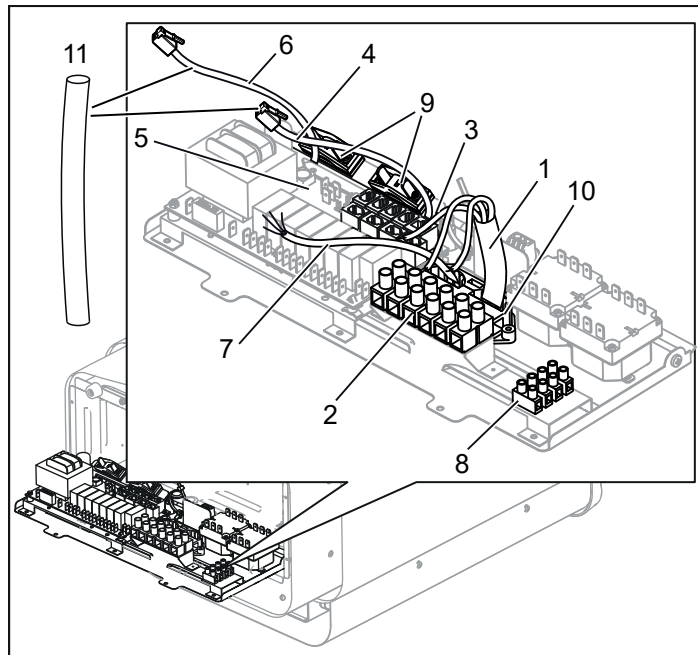
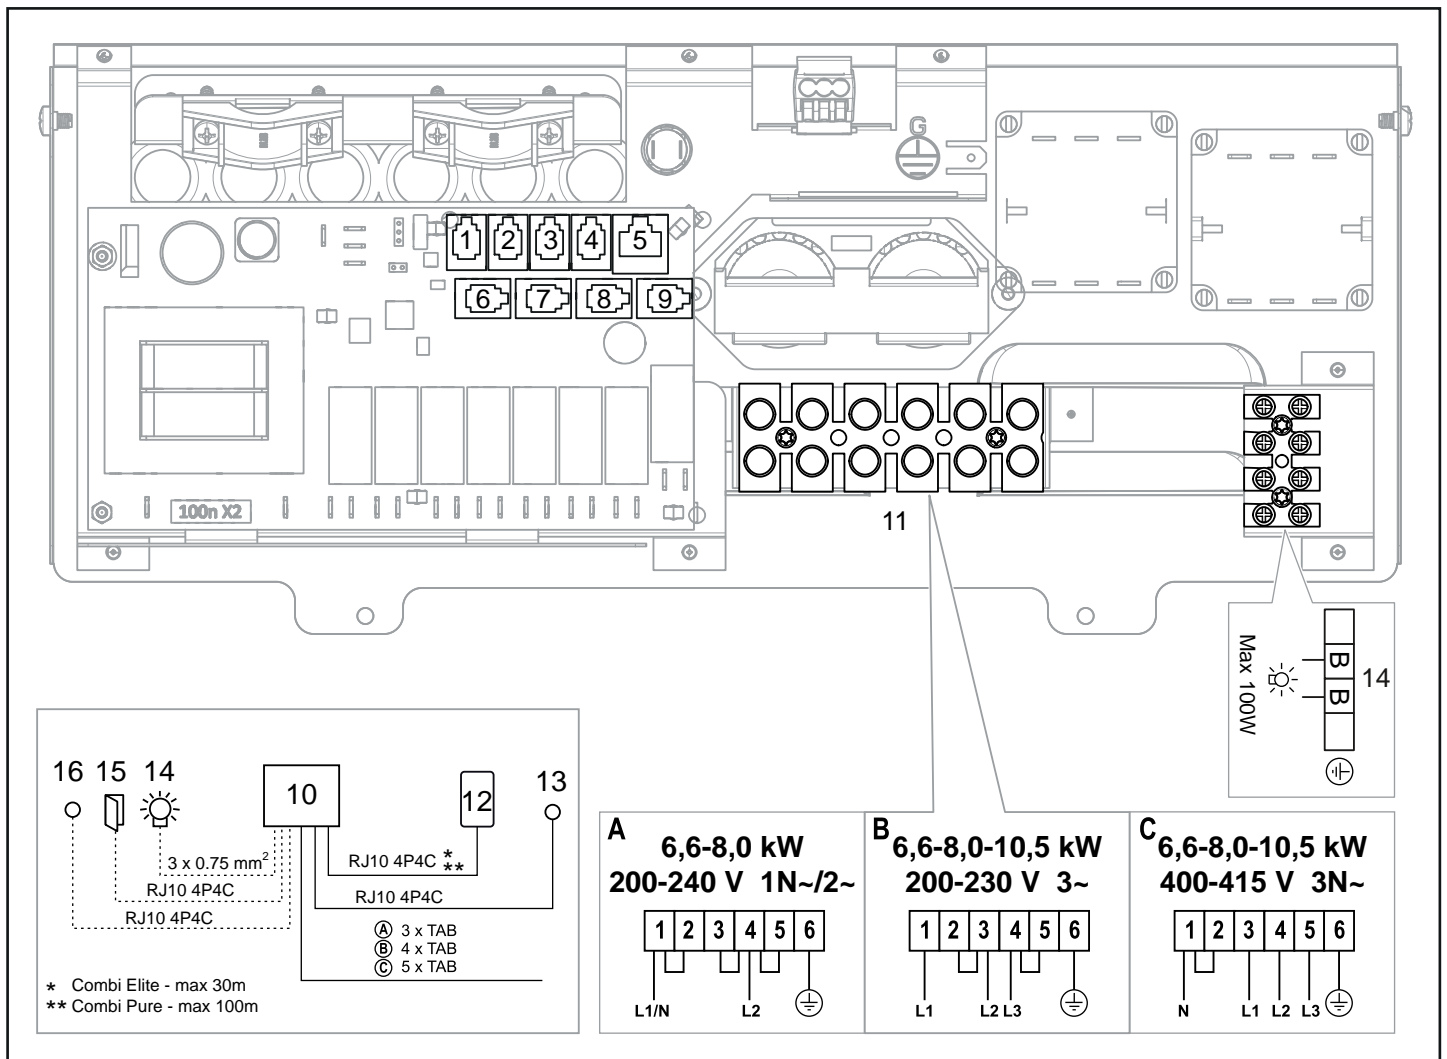

Figure 10: Circuit board
Figure 17: Wiring diagram
4. Connect the electrical cable (1) to the terminal (2) (see Figure 10) according to the wiring diagram (see the Connection/wiring diagram section, page 15).
5. Run the cables for the control panel and the temperature sensor through the cable grommets (3). Connect the control panel cable (4) to one of the four RS485 contacts (positions 6-9) (see Figure 10) according to the wiring diagram (see the Connection/wiring diagram section, page 15).
6. **Combi Pure:** Connect the sensor cable (6) to the NTC contact on the circuit board (position 1) (5) according to the wiring diagram (see the Connection/wiring diagram section, page 15).
7. Connect the light cable (if relevant) (7), see Figure 10, to the terminal (8) according to the wiring diagram Figure 17.
Contact Tylö Customer Service before connecting to voltages or numbers of phases that are not listed in the wiring diagram Figure 17.